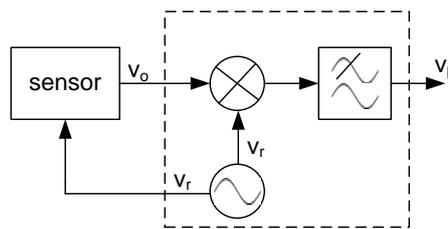

Figure 3: Sensor with phase sensitive detector.
- (d) The rotation sensor from Figure 2 is connected to a phase sensitive detector. This detector consists of an analogue multiplier connected to a low-pass filter. Using this processing circuit, it is possible to recover the magnitude and direction of the rotation from the output signal of the sensor. The block diagram of a phase sensitive detector is shown in Figure 3. The angle of the steering-wheel is given as a function $\Theta(t)$. Assume further that the reference voltage v_r is equal to: